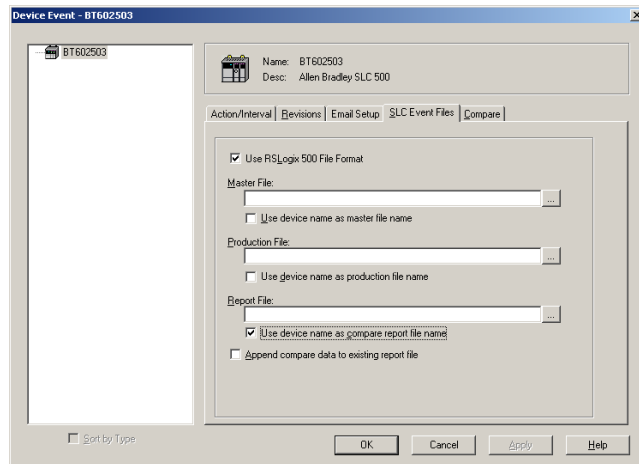

Fig.20
5. "Append compare data to existing report file" - unchecked (fig.20)